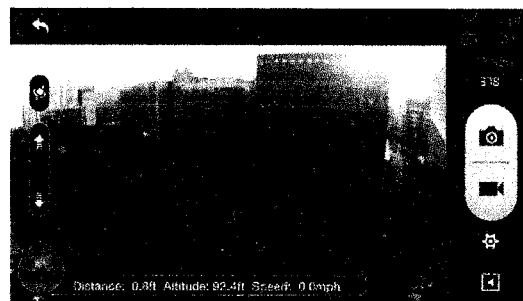

Figure 48
5. Tap the "CAMERA" icon and the DJI VISION App will begin a live camera preview (Figure48). This means everything is functioning normally.